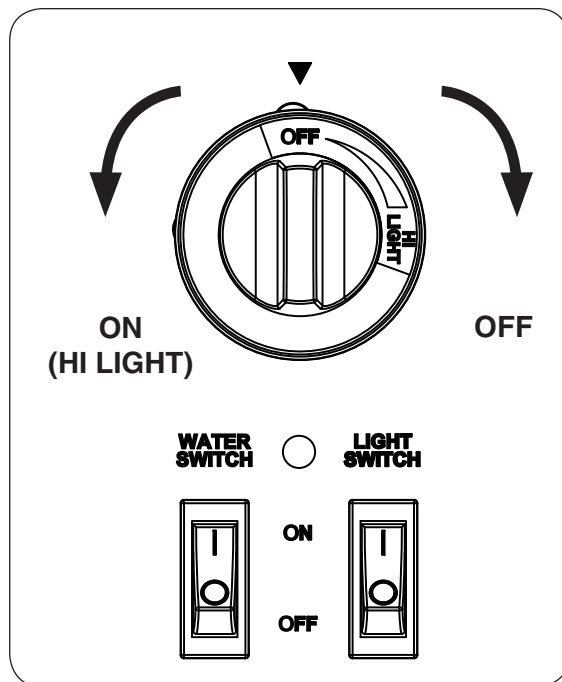

Fig. 31-2 Control box detail
4. **Once the match is burning and in position**, depress the gas control knob and turn it counter-clockwise to the **HI LIGHT** position (see Fig. 31-2). Your burner should light.
**WARNING:** If the burner does not light within (5) seconds of turning on the control knob, immediately turn the control knob clockwise to the **OFF** position.
**To extinguish your gas burner**, depress the gas control knob and turn it clockwise to the **OFF** position (see Fig. 31-2). Be sure the control knob is turned fully off to avoid any gas leakage.
2. Flip the water switch (door side of firefall) to the **ON** (I) position (see Fig. 31-2).
1. Flip the light switch (door side of firefall) to the **ON** (I) position (see Fig. 31-2).